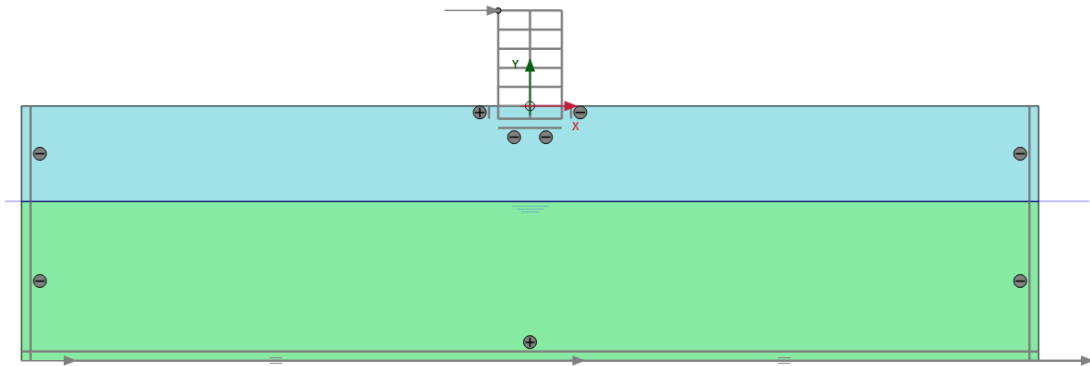

Figure 219: Initial phase
4. The model for the initial phase is shown in Figure 219 (on page 249).